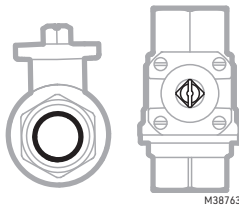

Fig. 3. Example of open ball valve.
- Make sure that the ball valve is in the open position before installation to ensure alignment with the actuator. See Fig. 3.